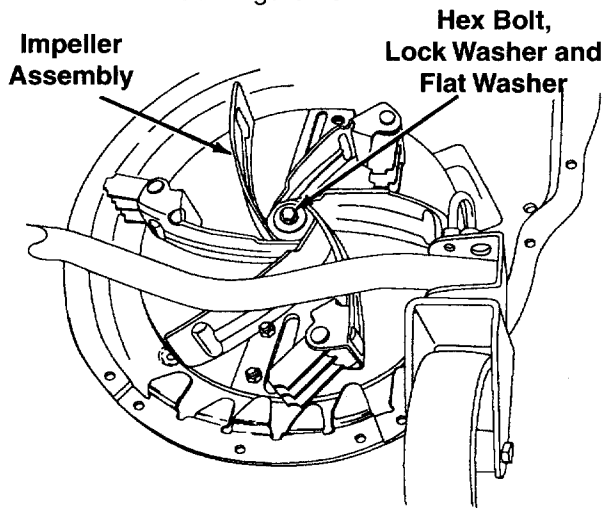

Figure 18
13. Remove the hex bolt, lock washer and flat washer that secures the impeller assembly to the crankshaft. See Figure 18.